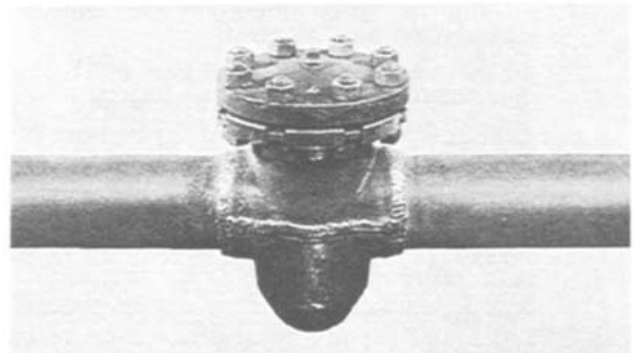

FIGURE 26
18. Bolt cap solidly to fitting. **Figure 26.**